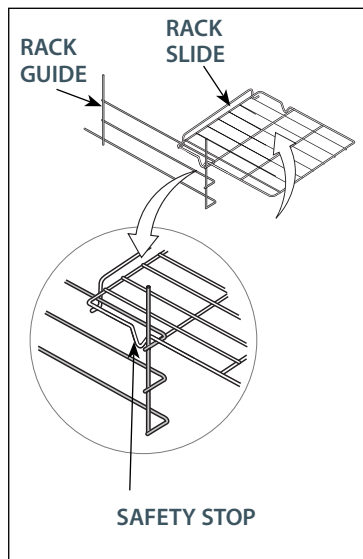

Fig. 21
2. As you slide the rack into the oven, tip the front of the rack up slightly, so that the safety stops on the back of the rack clear the rack slides (see Fig. 21). The safety stops keep the rack from sliding out of the oven when pulled forward.